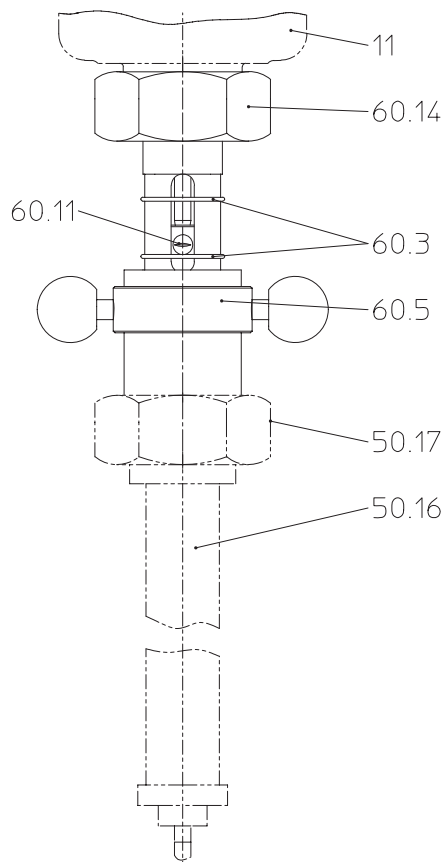

Fig. 5
- The manual control device is installed between the valve (pos. 11) and the actuator (pos. 50.16) of the thermal control valve (Fig. 5).
- The connecting nut (pos. 60.14) is fastened with about 100 Nm to the valve (pos. 11), the actuator (pos. 50.16) with about 50 Nm to the manual control device.